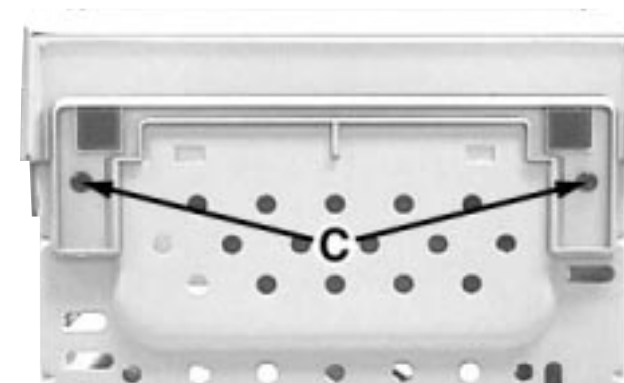

Figure 6
- 1) Remove 2 screws C (see Figure 6) from the bottom of the Cabinet Front (pos 101).